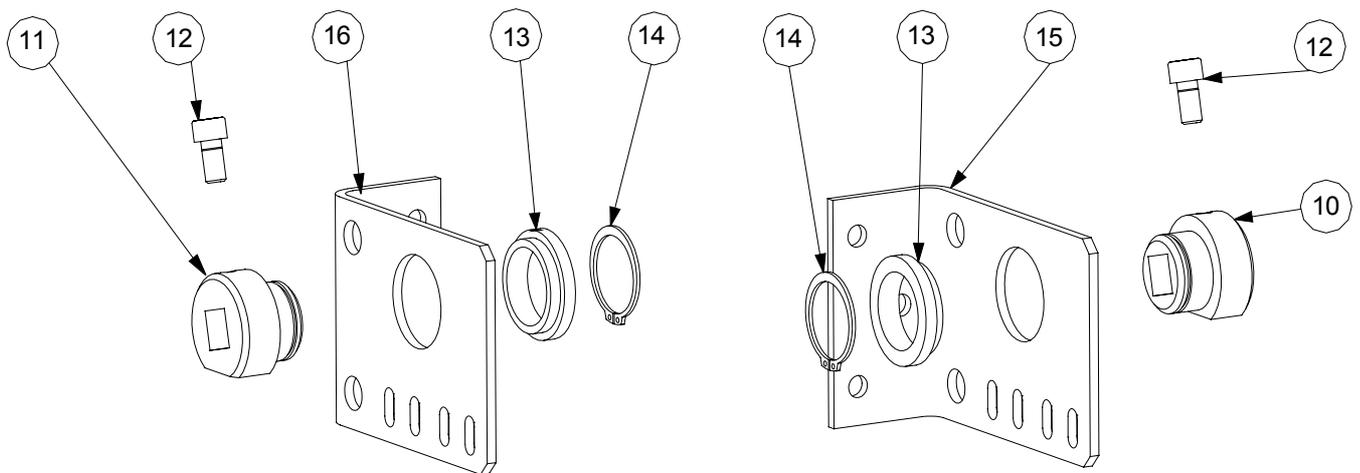

Figure.4
It must be taken in care during the assembly the fact that the left mounting plate (16) is different than the right one (15). The left support cap (11) is also different than the right one (10). The grooves of the mounting plate will be always at the lower part (See Fig. 4). The plane face of the support caps must remain parallel to the plate grooves and the thread must always look to the lift sling as it is shown at figure 4. The other components can be used either in one side or in the other side.
The nylon tips (13) must be introduced in each mounting plate in the way shown at Fig.4, later on, the support caps must be inserted from the opposite side, joining them (with the help
of straight-end pliers) through a security ring (14). Finally, an M8 x 16 DIN 912 8.8 screw (12). Must be introduced in each cap. The whole process is shown at figure.4.